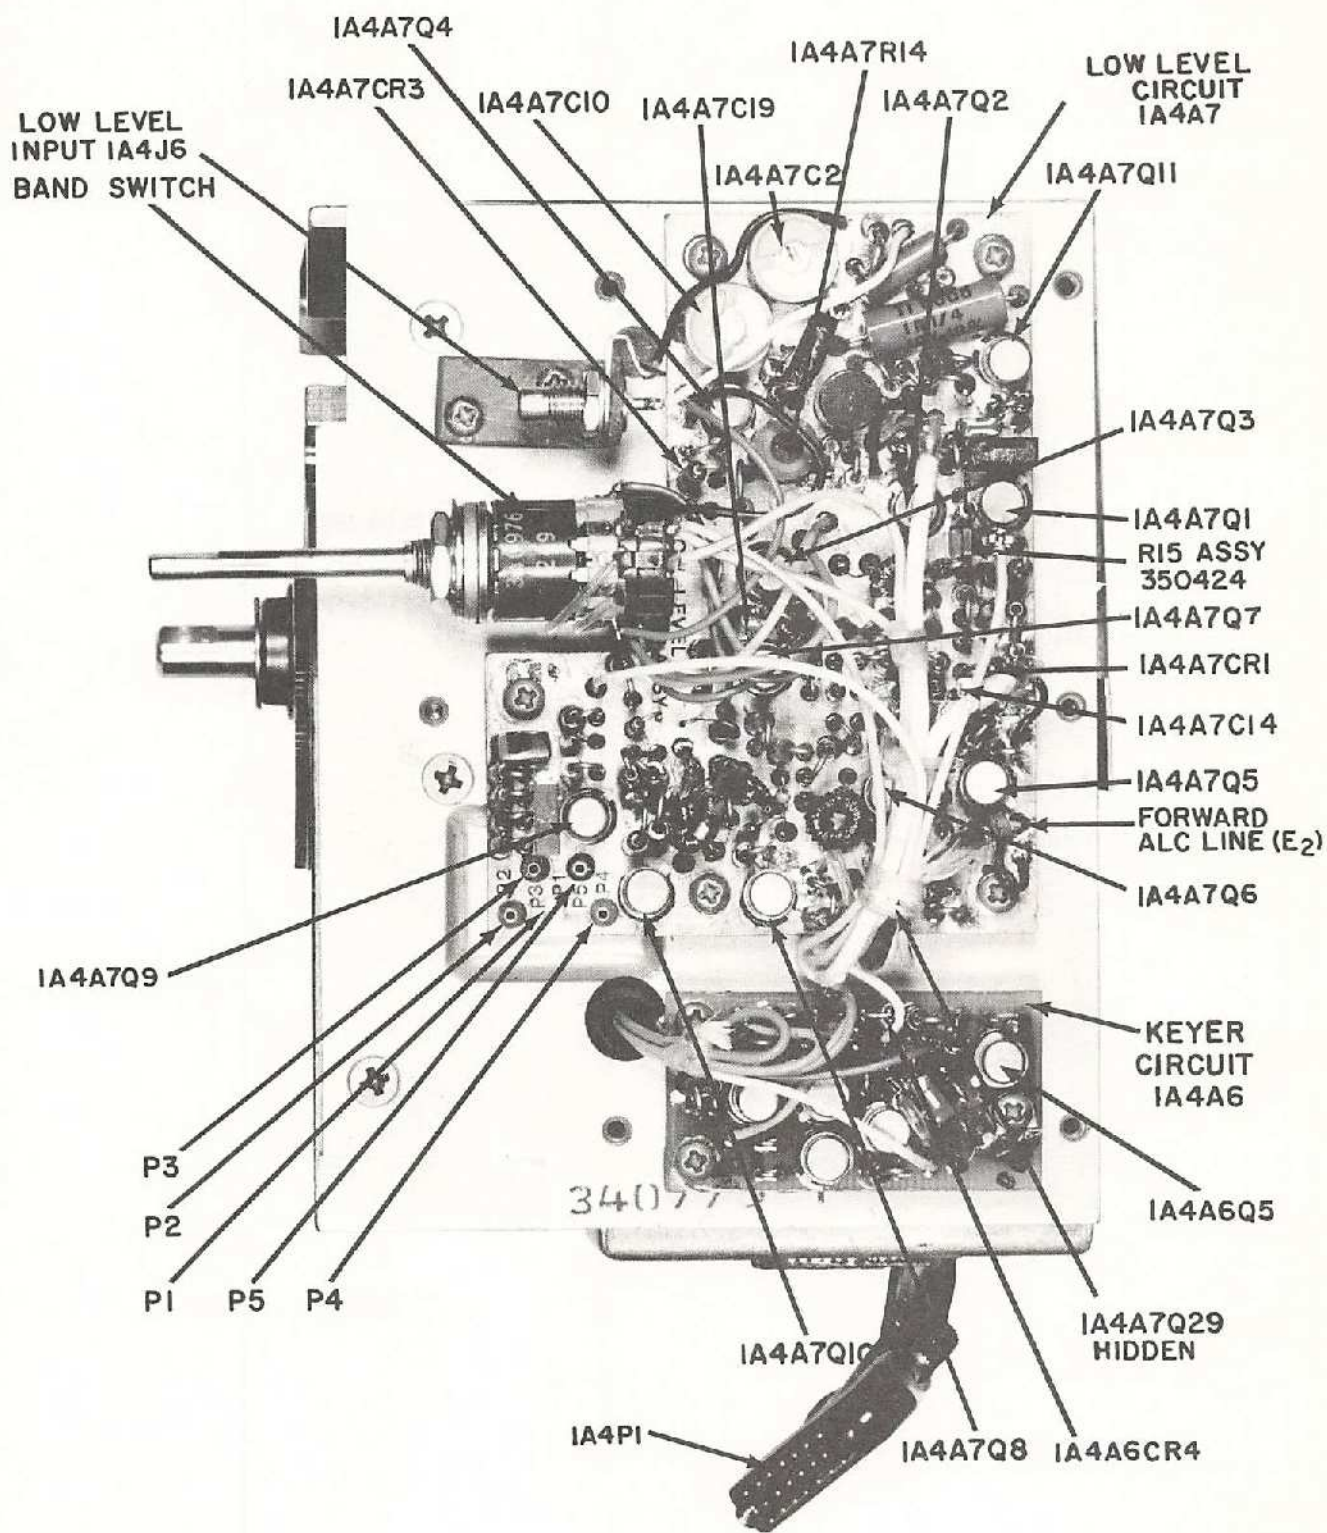

Figure 5-16. RT-224 Low Level Module and Keyer Module (shield removed)
- (3) Connect the key line, the receiver coax and the forward and reflected ALC coaxes.
- (4) Replace the module and the switch on the bracket.
- (5) Replace the five screws securing the low level module to the transmitter chassis and the nut and washer on the band switch.
- (6) Replace the module cover (figure 5-16).
- (3) Tilt the module away from the chassis to service or unsolder and tag the 10 wires connected to the module (figure 5-16).